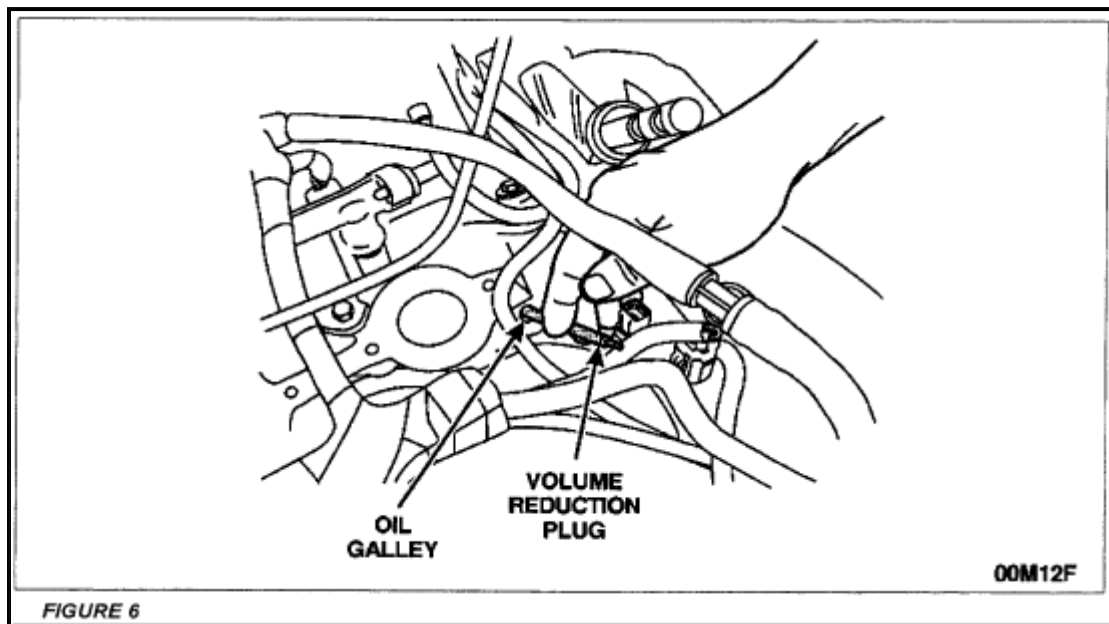

FIGURE 6
3. Install the volume reduction plug into the oil galley. See Figure 6.